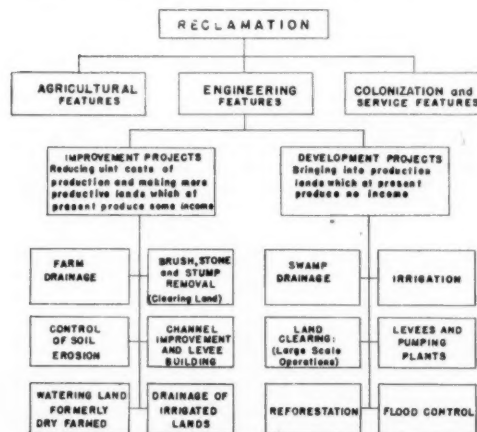

Fig. 1 Reclamation defined with respect to its agricultural, engineering, and colonization features
The major effect of the aluminum reflectors used with the type-R lamps (Fig. 1) was to serve as a baffle to prevent convection currents from creating a draft around the heated area. Note in Fig. 5 (2) the chicks seem to form a large ring under the lamp with the reflector or baffle and in Fig. 5 (4) the chicks seem to stay closer to the center of the heated area. The lamps in both pictures were the same height above the litter with the same room temperature.
A comprehensive definition of reclamation, developed by Ayres and Scoates (2)* is presented in Fig. 1.
Water control for reclamation has been practiced through the centuries and special reference is given here to the engineering features of reclamation as defined in Fig. 1.